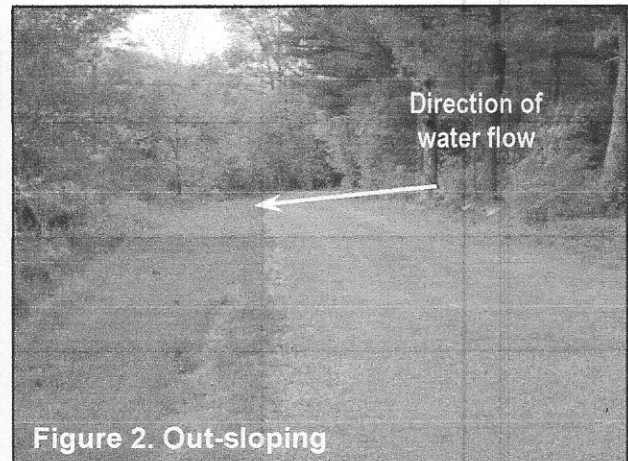

Figure 2. Out-sloping
- **Out-slope:** Out-sloped road surfaces drain water from the entire width of the road toward the fill-bank or down-slope side. Elimination of road ditches on both sides of the road is possible with this surface shape. This shape best mimics natural drainage patterns and allows minor overland sheet flow is to flow across the road (Figure 2). Out-sloping is useful on low volume roads where side-slopes are gentle and concerns about winter icing are minimal.